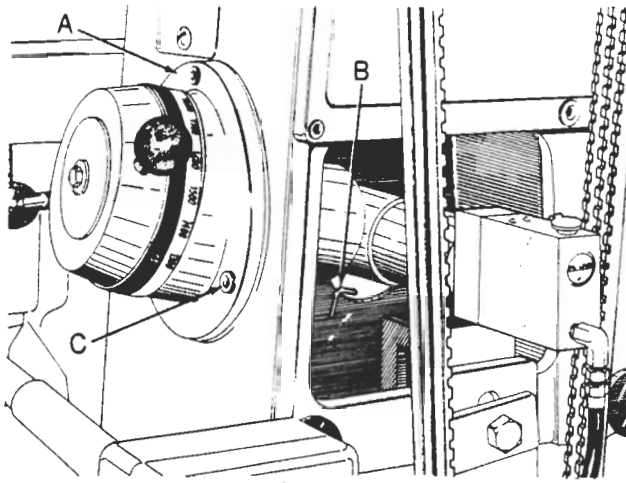
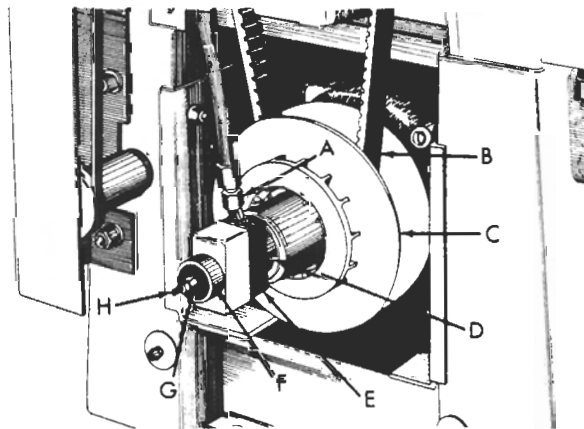

Figure 14
Figure 17
4. Lock dial in low speed position with pin (B, fig. 14).
3. Turn variable dial to lowest speed and lock in place with pin (B, fig. 14).
3. Turn variable dial to lowest range and lock in place with pin (B, fig. 14).
4. Measure distance from end of shaft (H, fig. 17) to nut (G). Note: Record this dimension.
5. Disconnect fitting (A) and drain oil from unit.
6. Hold variable pulley (C) from rotating and remove locknut (G).
7. Pull dual hydraulic cylinder (E) and outer half of variable pulley (C) off the shaft.
8. Press dual hydraulic cylinder (E) with bearing (D) from variable pulley (C).
9. Slide new hydraulic cylinder with bearing into variable pulley hub (C) then slide the assembly onto shaft (H).
10. Start locknut (G) on shaft (H).
11. Hold the variable pulley (C) so it will not rotate and turn locknut (G) onto shaft (H) until distance from end of the shaft (H) to locknut (G) is the same as step 4.
12. Start fitting (A) onto hydraulic cylinder (E).
14. Keep oil reservoir filled, hold variable dial against low speed stop until oil runs out around fitting (A) —it takes a few minutes for oil to run down.
15. Tighten fitting (A).
16. Remove lock pin (B, fig. 14).